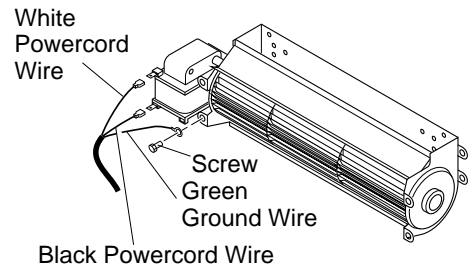

Figure 14 - Removing Wires from Blower
5. Disconnect power cord wires from blower motor (if connected) (see Figure 14).
6. Disconnect green ground wire from blower housing (if connected) by removing screw holding wire terminal (see Figure 14).
4. Disconnect power cord wires from blower motor (if connected) (see Figure 14, page 10).
5. Disconnect green ground wire from blower housing (if connected) by removing screw holding wire terminal (see Figure 14, page 10).